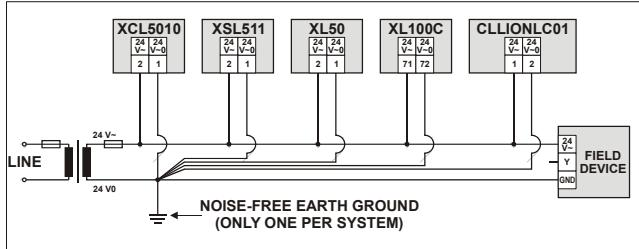

Fig. 111 Connecting and earth grounding mixed controllers (single transformer)
- Make sure that earth ground is connected to the correct terminal according to Fig. 111 and the respective connection diagrams.